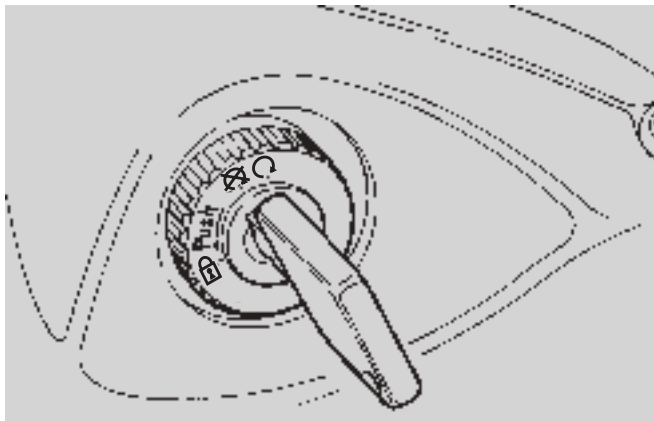

Fig. 24
- ◆ Move the ignition switch (Fig. 24) to position "⊗".